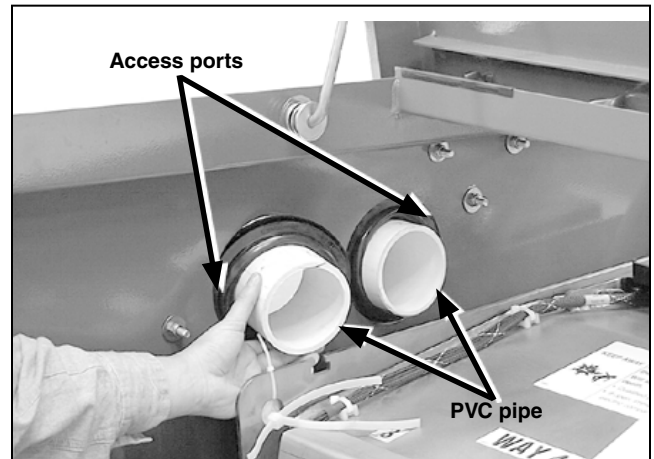

Figure 26. The PVC pipes inserted through the access ports.
- (a) Insert the three-inch PVC pipe through each access port. See Figure 26. Make sure equal lengths of pipe show in the low-voltage compartment and in the pad-mounted enclosure.